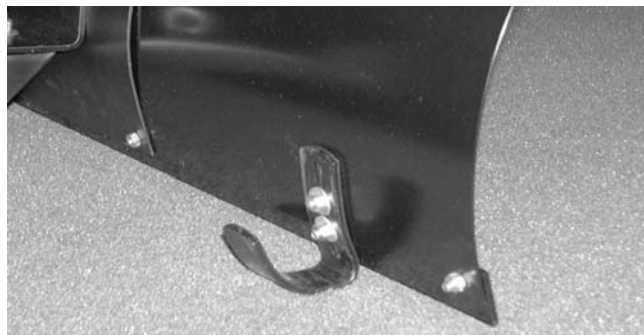

Figure 12-78.
1. Adjust the skid shoes so the wear plate is approximately 1/8" to 1/4" above the ground when the blade is fully lowered. Tighten the hex lock nuts securing the skid shoes to the blade using a 1/2" socket. See Figure 12-78.